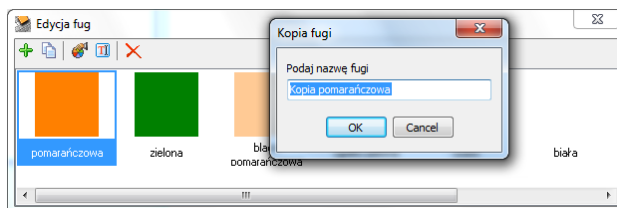

Fig. 215 – grout edition – creating a copy of a grout
- **Grout editor**– opens a dialog in which the user defines colours and names of grouts, e.g. names conforming to the given producer's names. It is possible to add, copy and edit colours and names of the grouts in the dialog box (Fig. 215) using the icons or the context menu.